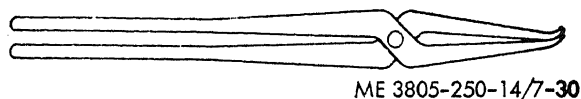

Figure 7-30. Brake spring pliers.
(2) Use brake spring pliers 5120-690-8044 (131A) shown in figure 7-30 to remove springs (1 and 2).